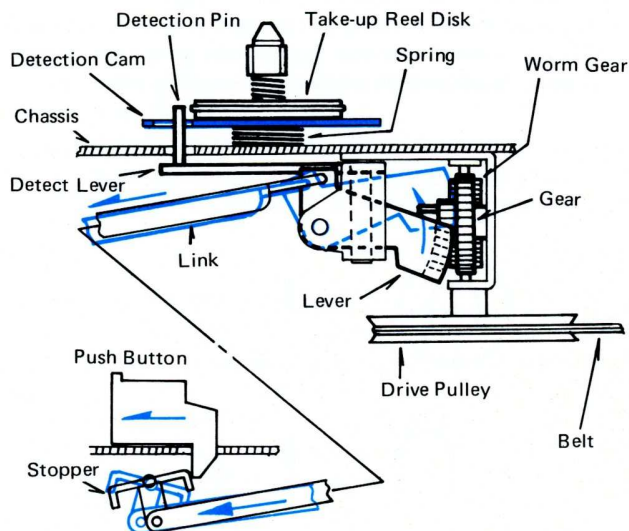

Fig. 31
- 1) The detection cam located under the take-up reel disk is pressed against the reel disk by the spring as shown in Fig. 31 and it swings to the rotating direction of the reel disk by the friction of the reel disk.
The lever presses the link to move the stopper and the stopper release the control buttons, as shown in Fig. 31, then the mechanism stops completely.